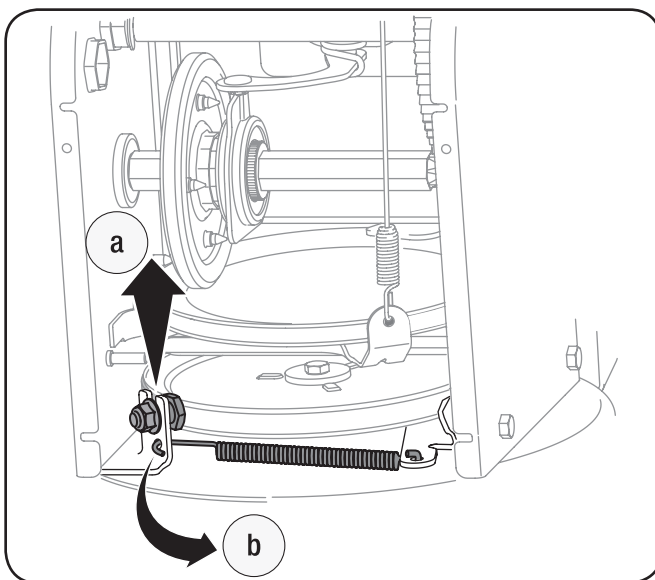

Figure 7-4
5. Remove the belt as follows. See Fig. 7-4.